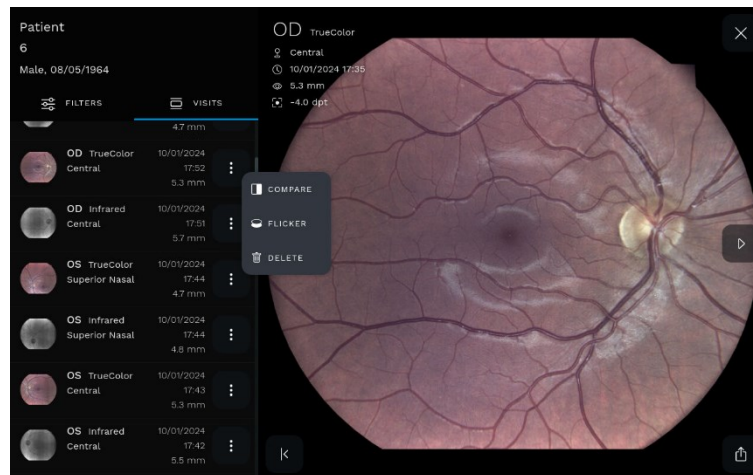

Fig. 60 – sidebar items screen
- Push the **open sidebar** button on the *Image Review* Screen to open the *Sidebar* panel, and select the **VISITS** tab, as in Fig. 60.